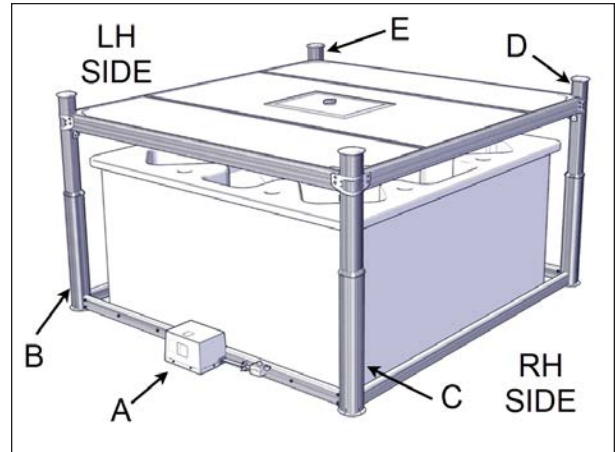

FIGURE 47: OPERATOR AND JACKS INSTALLATION
1. Install the motor frame in place, usually to the opposite side of the spa entrance see Figure 47. The standard model will need the motor frame to be on the short side of the cover, whereas the long-side model will need the motor frame on the long side of the cover.